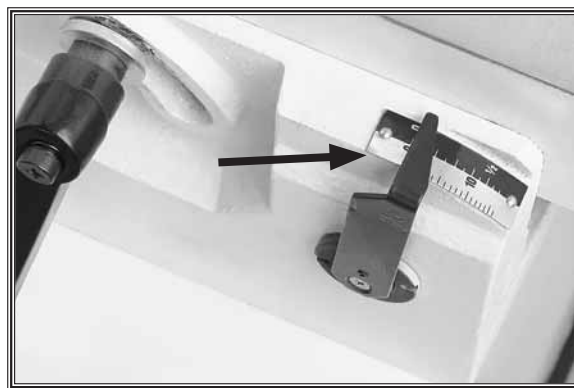

Figure 55. Depth scale adjusted to "0" position.
4. Using a screwdriver, adjust the scale pointer to "0" (**Figure 55**), then reset the infeed table positive stops.